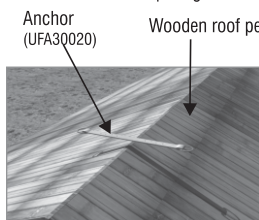

Fig. 1- Wooden roof structure on to which anchor is to be installed.
STEP 1: Place the anchor plate to match the surface it will be mounted on, either a roof peak or flat surface. Ref fig. 1. The anchor must be placed in such a way that the product label faces upward and butyl flash tape sticks to the roof surface.